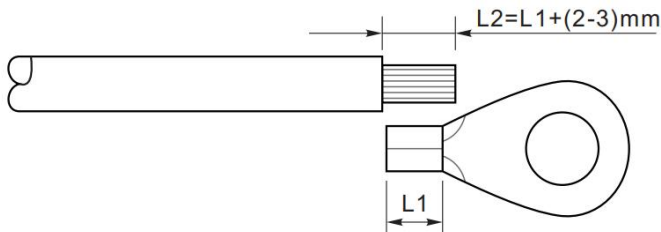

Figure 5-2 Grounding connection instruction (1)
**Step 1:** Remove the insulation layer with an appropriate length using a wire stripper shown as figure 5-2.